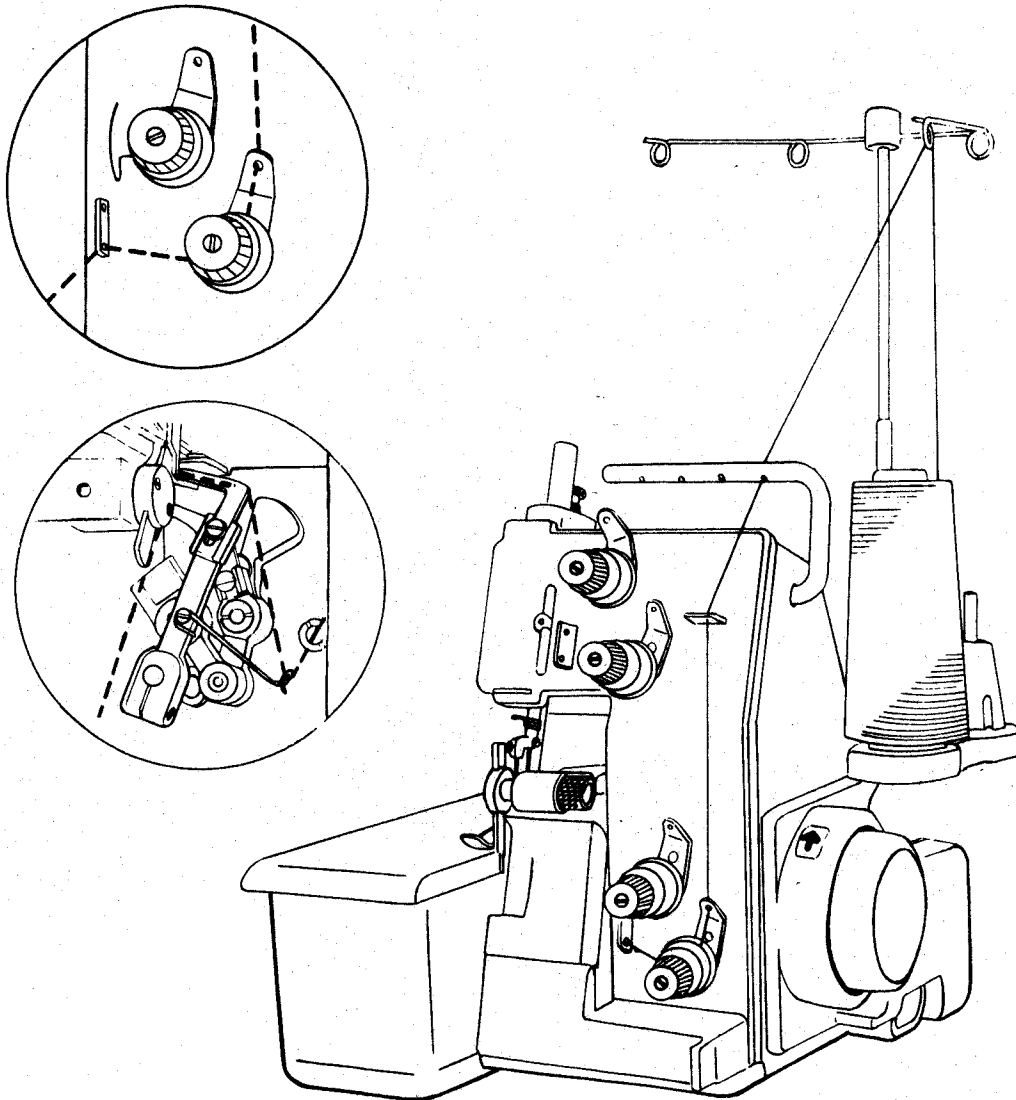

fig4-1-1
- (1) Chainstitch looper thread..... (fig. 4-1-1, page 7)